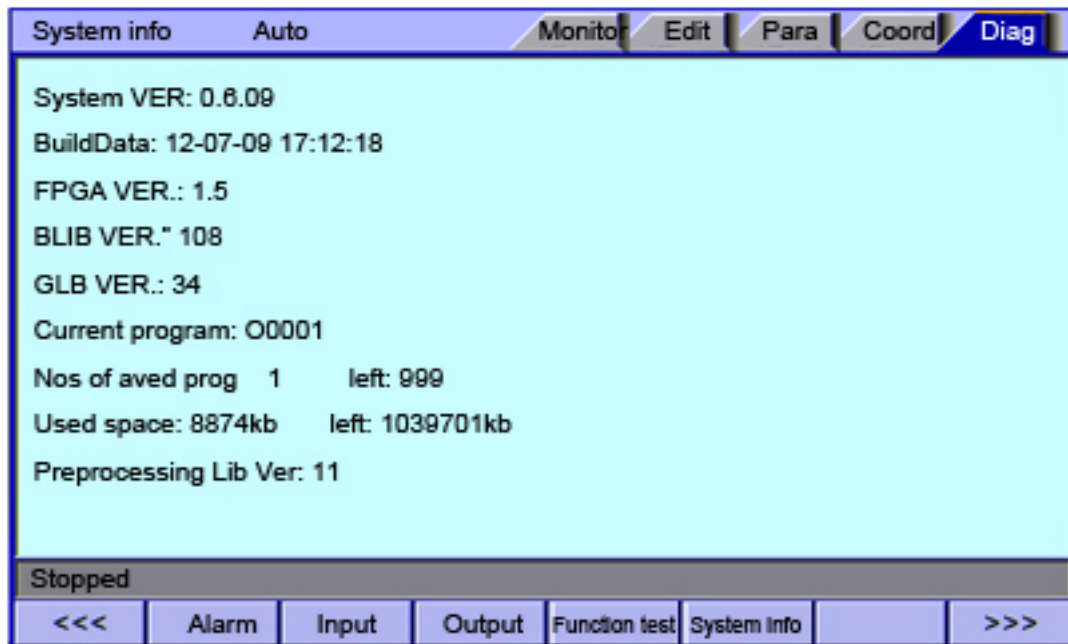

Fig. 9-2-1
Before update, press [Diagnosis] [System info] to view current version information of the software, in order to compare whether the update is successful, as shown in Fig. 9-2-1:
- (5) Select the second upgrade file NC_RES.NC; skip this step if the file doesn't exist. The operation is same as (4).
(6) After update, enter BIOS and then update the program: when the system is restarting, press [Cancel] to enter and show six options, which are 0: System Settings; 1: BIOS Settings ... 6: Language; select 1: BIOS Settings - 1 - Program, and press Y to confirm; after that, the system prompts that the programming is done.
(7) After update, enter system info of the Diagnosis menu to view the system version number and programming date, and confirm whether the update is successful, as shown in Fig. 9-2-1.